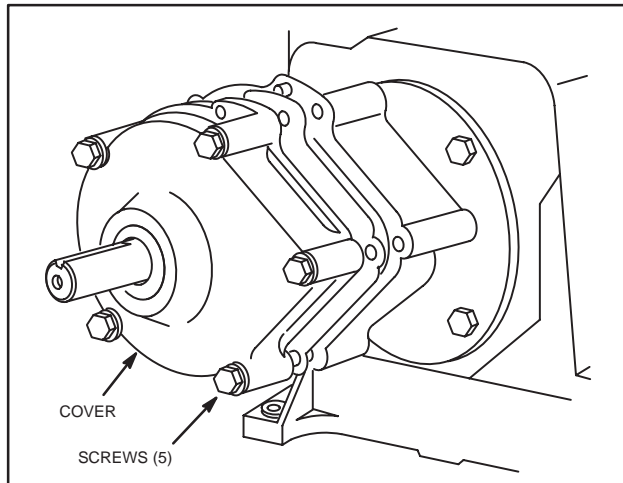

Fig. 144 – DRAINING GEAR REDUCTION AND REMOVING COVER
2. After gear case is drained, remove cap screws and cover, Fig. 144.